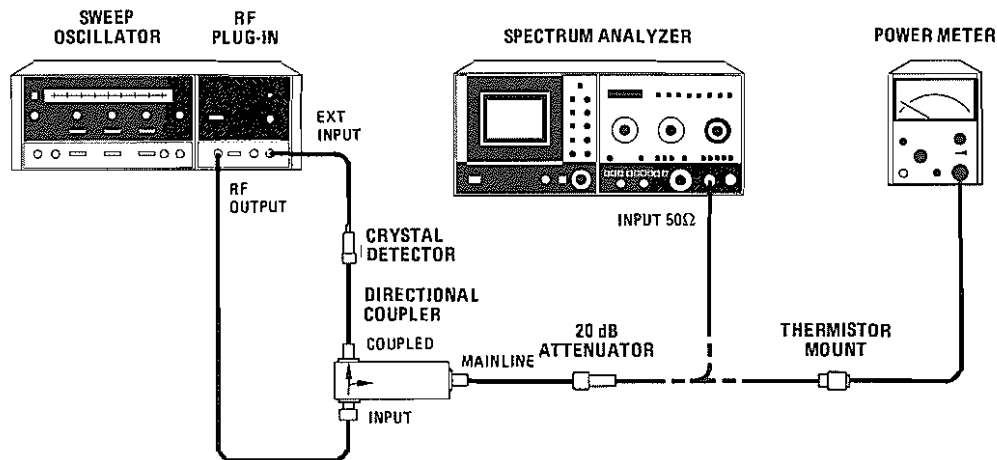

Figure 4-11. Nonharmonic Spurious Signals Test Setup
- a. Connect equipment as shown in Figure 4-11 with power meter connected to 20 dB attenuator.
- e. Disconnect power meter. Connect spectrum analyzer as shown in Figure 4-11.